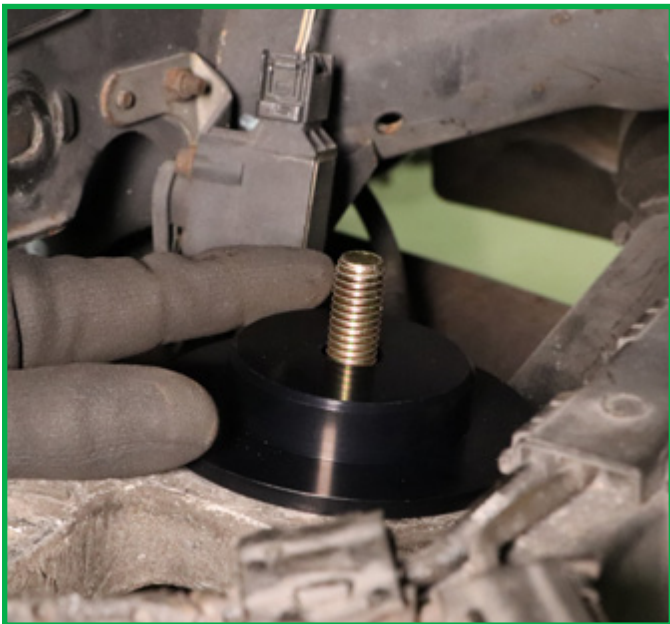

FIGURE 31
3. Install bottom coil perch on vehicle. (Figures 31, 32, 33)